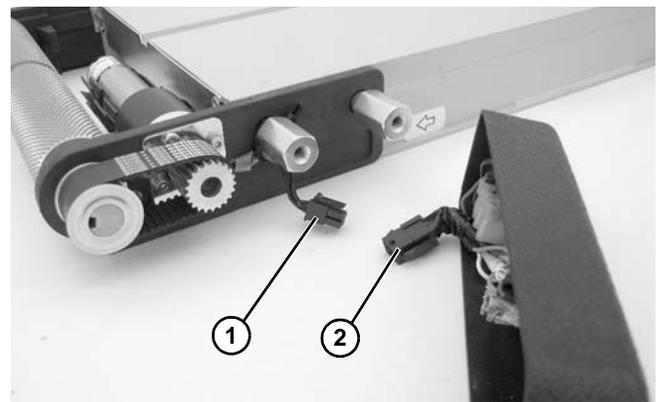

Figure 95
3. Unplug motor connector (**Figure 95, item 1**) from cover wiring connector (**Figure 95, item 2**).